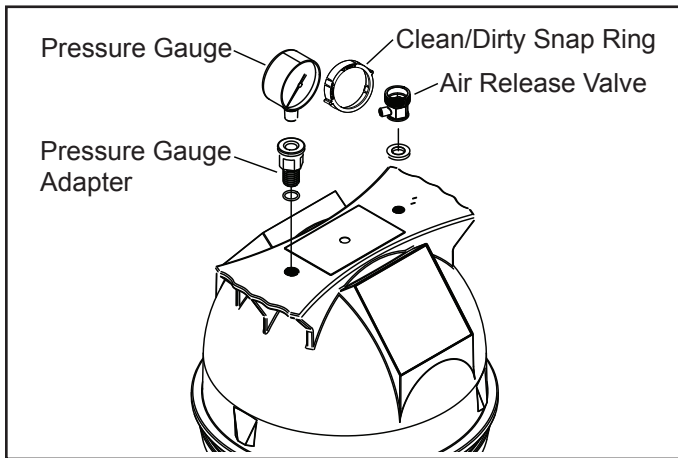

Figure 4. Pressure Gauge and Pressure Release Assembly
4. Install the pressure gauge and adapter assembly to the threaded hole marked "Pressure Gauge" at the top of the filter. See Fig. 4.
5. Install the air release valve into the threaded opening marked "Air Release" at the top of the filter. See Fig. 4.